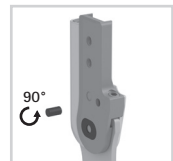

fig. 19
- 7 Turn the worn position of the securing pin by about 90° (fig. 19).